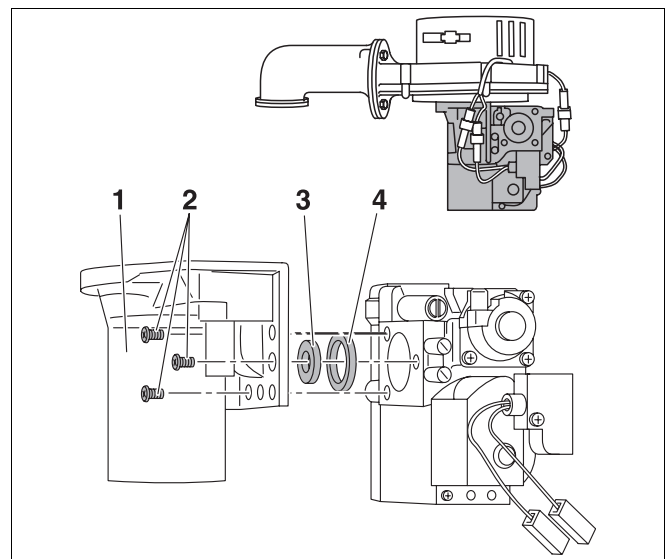

Fig. 73 Replacing a gas nozzle
Conversion to another gas type is implemented by installing/removing a gas nozzle (fig. 73, item 3) of the appropriate gas nozzle diameter (table 7).
- Undo the three screws (fig. 73, item 2) on the long side of the gas fitting.
- Insert new seal (fig. 73, item 4).